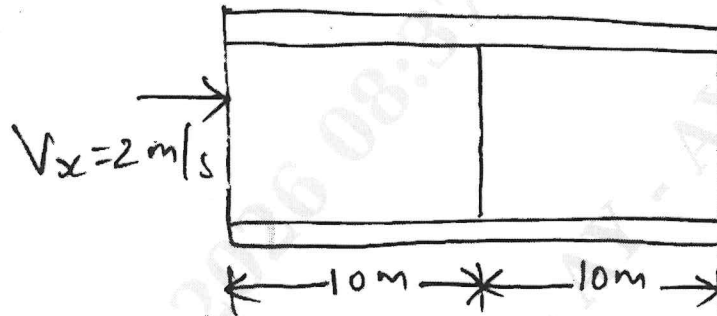

Fig. Q8
- 8 For the smooth pipe shown in Fig. Q8 with uniform C/S of 1 m^2 , determine the flow velocities at the centre and right end, knowing the velocity at the left is $V_x = 2 \text{ m/sec}$.